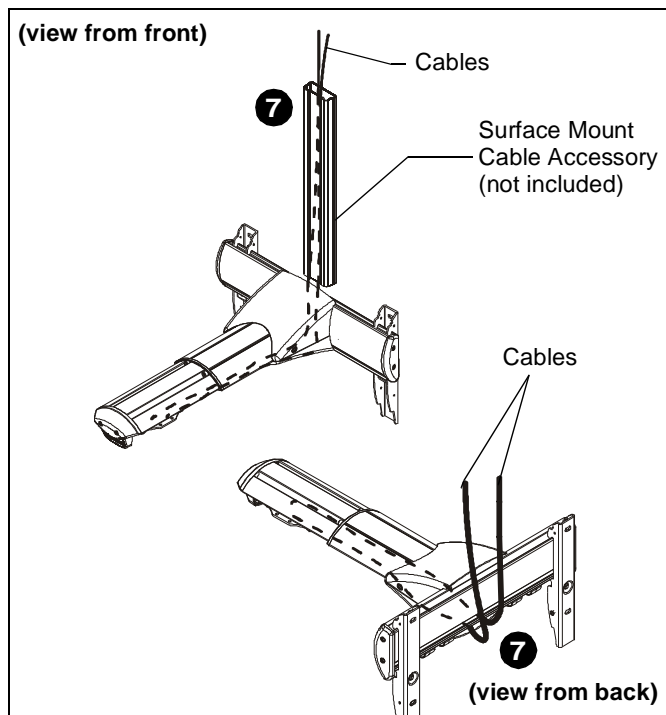

Figure 57
7. Thread cables down through a surface mount cable accessory (not included), then behind and into the wall bracket. (See Figure 57) **Proceed to Step 8**